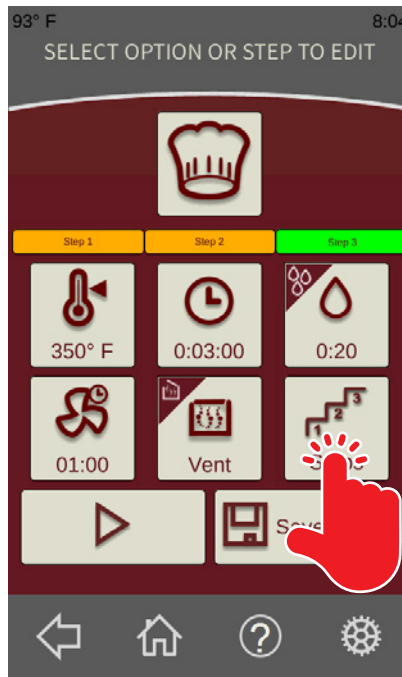

Fig. 33
1. From the **Standard Recipe Run Screen** (Fig. 33), touch the Steps button to delete a step from the current recipe. The **Recipe Steps Screen** should be displayed.